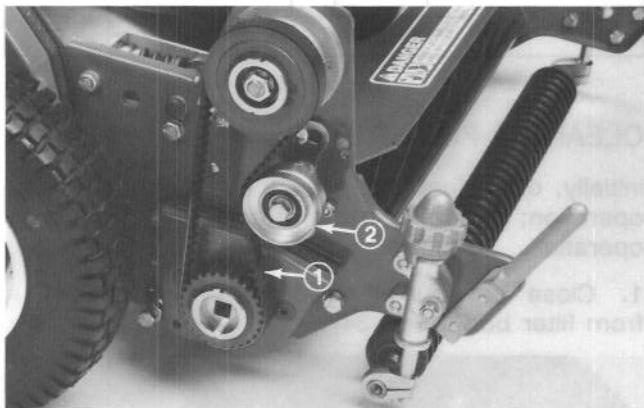
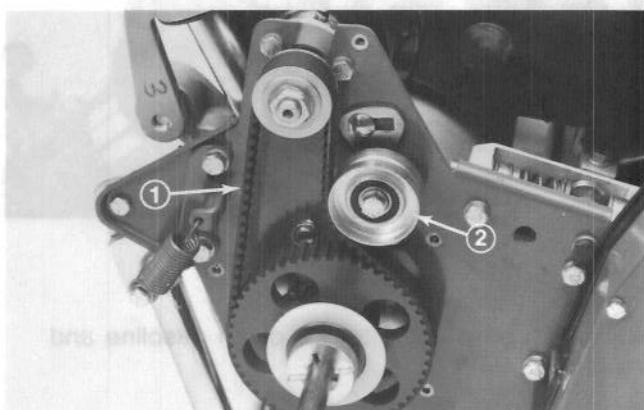
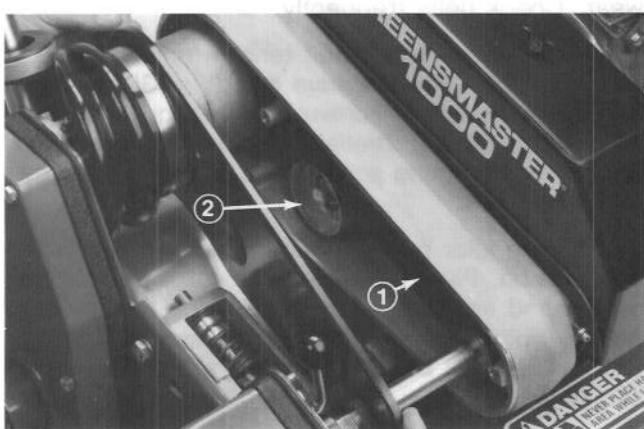

Figure 35
Figure 36
Figure 37
1. To check or adjust belt tension on reel drive belt (Fig. 35), traction drive belt (Fig. 36) remove belt cover mounting screws and belt cover to expose belts. On differential belt (Fig.37), remove belt cover mounting screws and slide cover away to expose belt.
2. Loosen idler pulley mounting screws relieving belt tension. Pivot the pulley against the backside of belt and apply 20 - 25 lbs of force to the idler pulley. Tighten pulley mounting screws. **DO NOT OVER TENSION BELTS.** Procedure the same for all (3) belts.